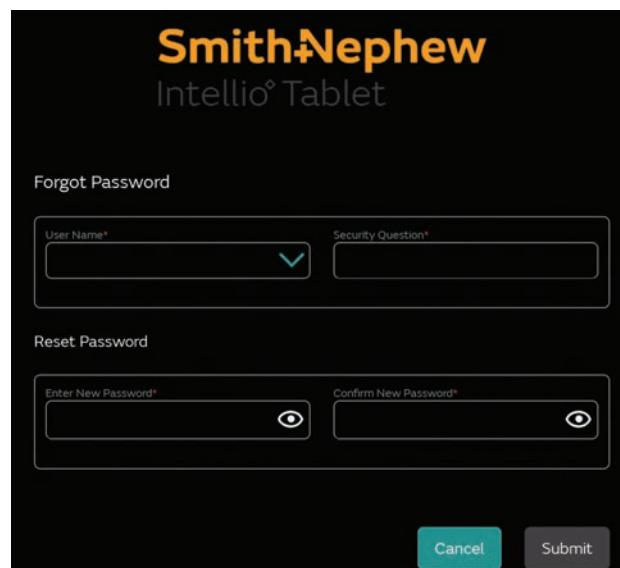

Figure 59. Forgot Password
1. From the Log in screen, tap **Forgot Password**. The **Forgot Password** screen appears (Figure 59).